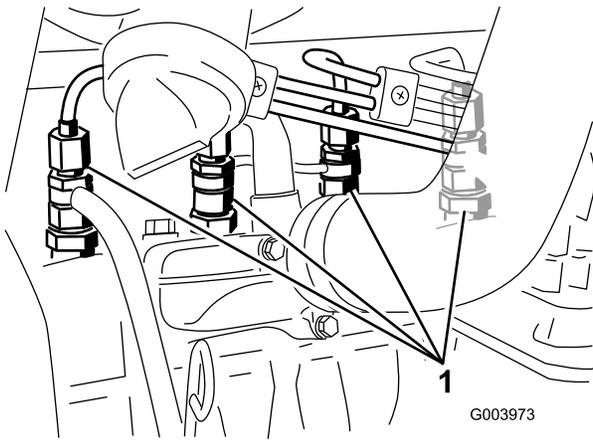

Figure 56
1. Loosen the pipe connection to the No. 1 nozzle and holder assembly (Figure 56).